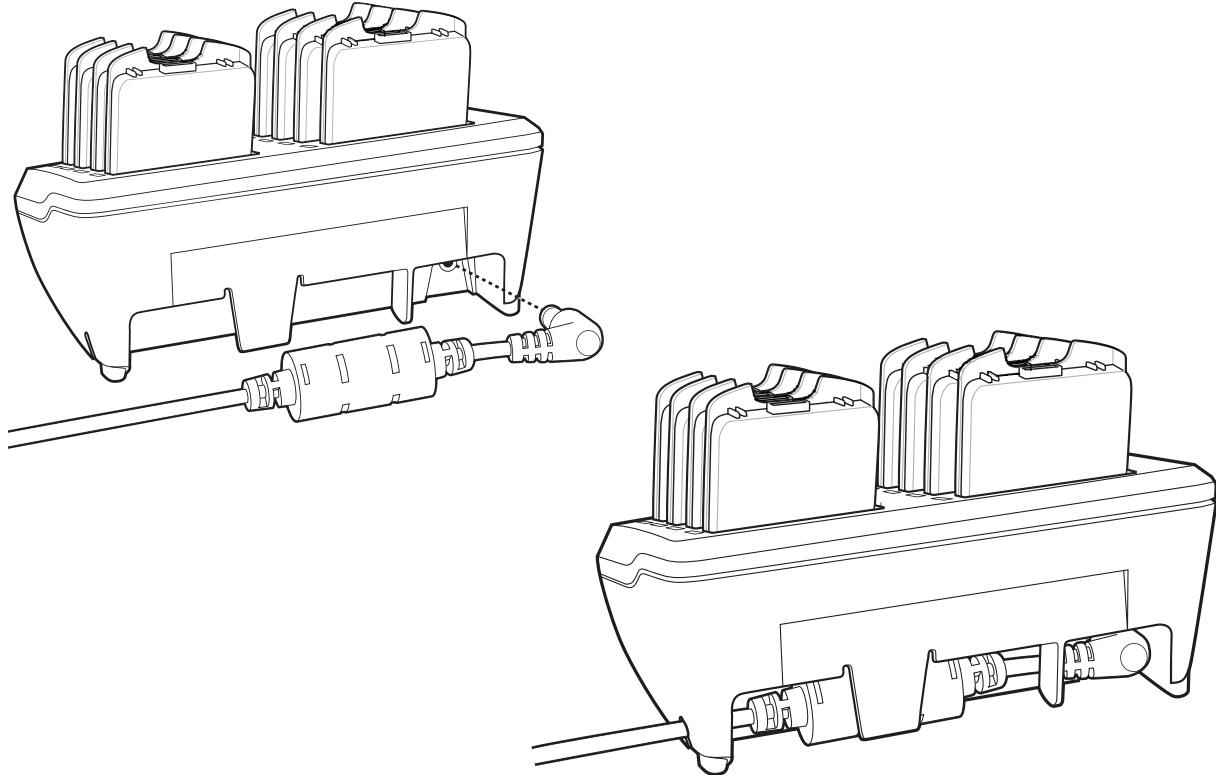

Figure B-3 Connecting Power
1. Connect the power supply to the power port on the back of the charger as shown in *Figure B-3*.